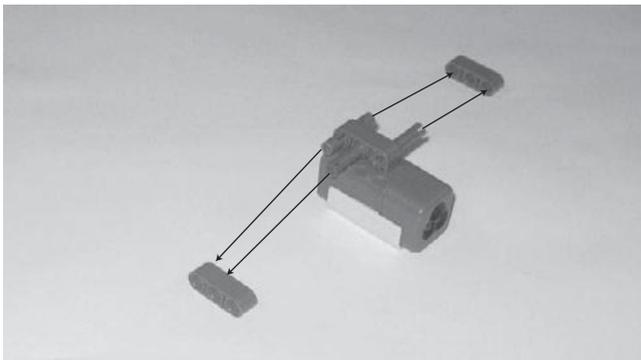

Figure 10.5
Step 2: Attach two 3M straight beams to the color sensor as shown in Figure 10.5.